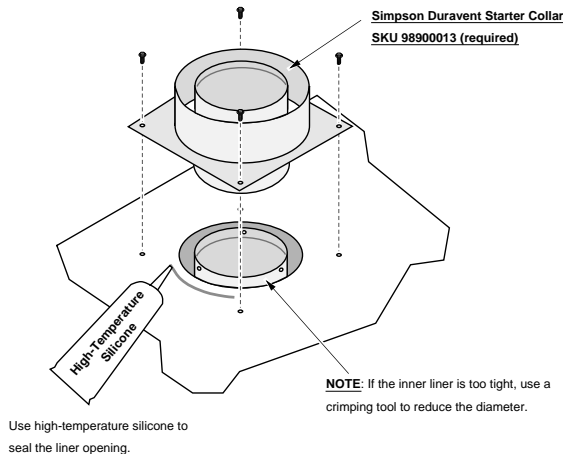
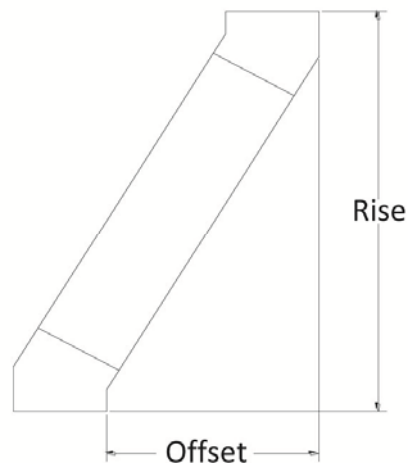

Figure 17
Figure 18
- Simpson Duravent chimney requires a starter collar. Attach the starter collar to the top of the fireplace with four sheet-metal screws (see Figure 17). If the inner pipe is too tight, use a crimping tool to adjust pipe diameter (see Figure 18). Seal the outer sections of pipe with high-temperature silicone.